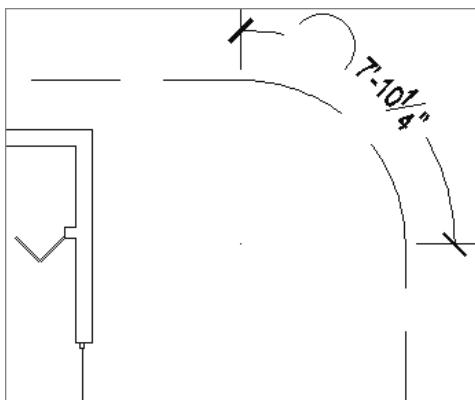

FIGURE 12.35 The arc length dimension positioned on the curve
An arc length dimension measures the length of an arc or polyline arc segment. As shown in Figure 12.35, an arc symbol, or *cap*, precedes the text to identify it as an arc length dimension. Follow these steps to place an arc length dimension at the filleted corner:
4. Click to locate the dimension (see Figure 12.35).